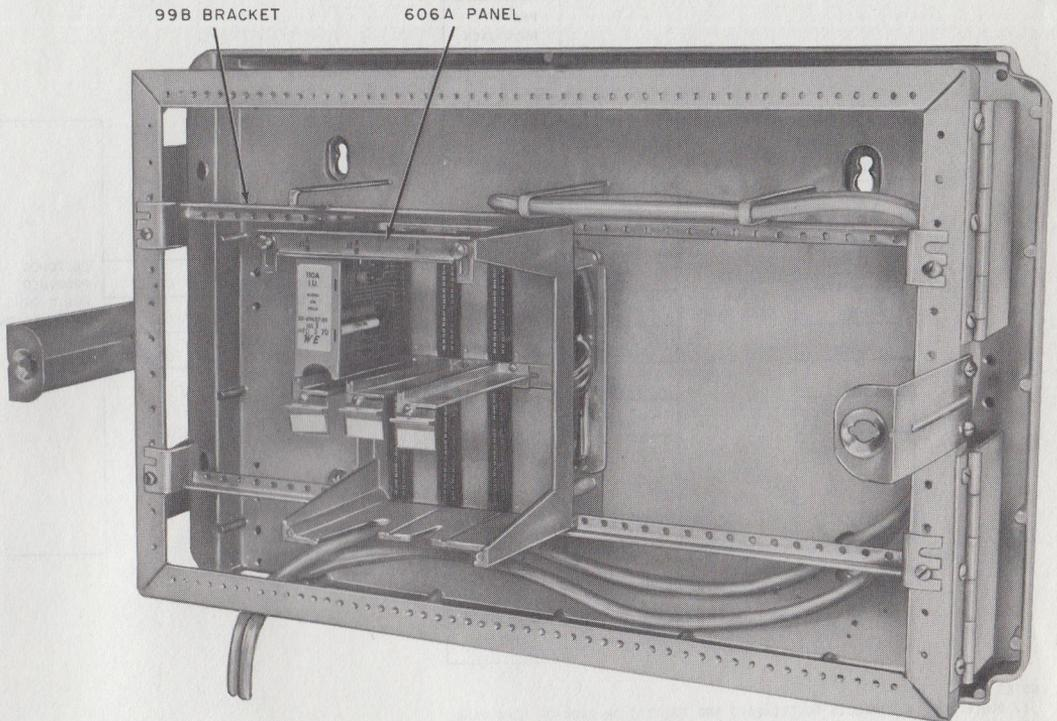

Fig. 5—606A Panel Mounted in 16C Apparatus Mounting
3.07 Install the 606A panel on a standard 23-inch relay rack or in a 16C apparatus mounting using a 99B mounting bracket (Fig. 5). The center mounting bar should be removed from the 16C apparatus mounting. Connect a separate ground to rack or mounting.